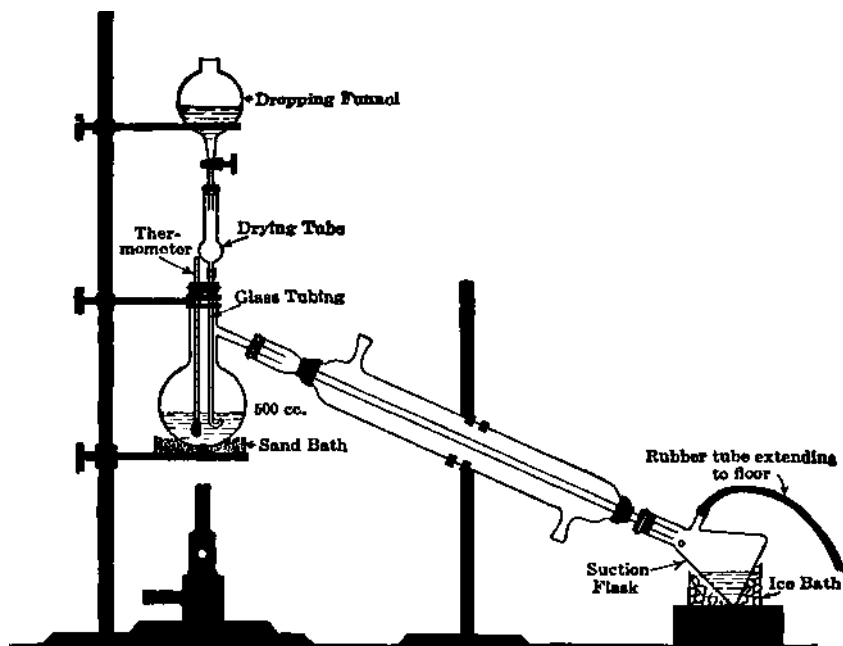
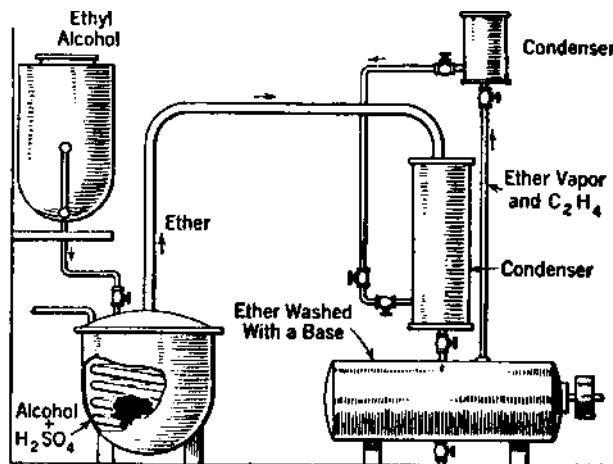

FIG. 34.
FIG. 35.—Manufacture of Ether.
(g) **Preparation of Absolute Alcohol.**—Into a 300 cc. flask introduce 75 cc. of alcohol, and add small lumps (not powder) of quicklime until the lumps reach to the surface of the liquid. Stopper the flask with a cork carrying a drying tube filled with anhydrous CaCl_2 and allow it to stand until the next laboratory period. At the end of this time connect the flask with a reflux condenser having a drying tube filled with CaCl_2 attached at the upper end and reflux on a water bath for an hour. (Flask is to be placed *above* and not *in* the boiling water.) Then remove the reflux condenser and arrange for distillation from a water bath. A dry suction flask, see Fig. 34 (p. 59), is attached to the condenser by means of a cork. **To the side-arm of the suction flask is attached a drying tube filled with anhydrous CaCl_2 . Note the temperature at which the alcohol distills. Test the distillate according to Expt. (f) of this experiment. If it is not absolute, subject it to the same treatment again.**
Put 75 g. of ethyl alcohol into a 500 cc. distilling flask and add 75 g. of cone. H_2SO_4 (5 cc. at a time). Shake well after each addition and keep the mixture cool during the process of mixing. Then arrange the apparatus as shown in Fig. 34. When the temperature reaches about 140° , ether begins to distill over. Now
2. Why is a sand bath used in Fig. 34?
14. Compare the respective parts of the equipment in Fig. 35 with those shown in Fig. 34.
15. Why is a coil-heating device used in the still of Fig. 35?